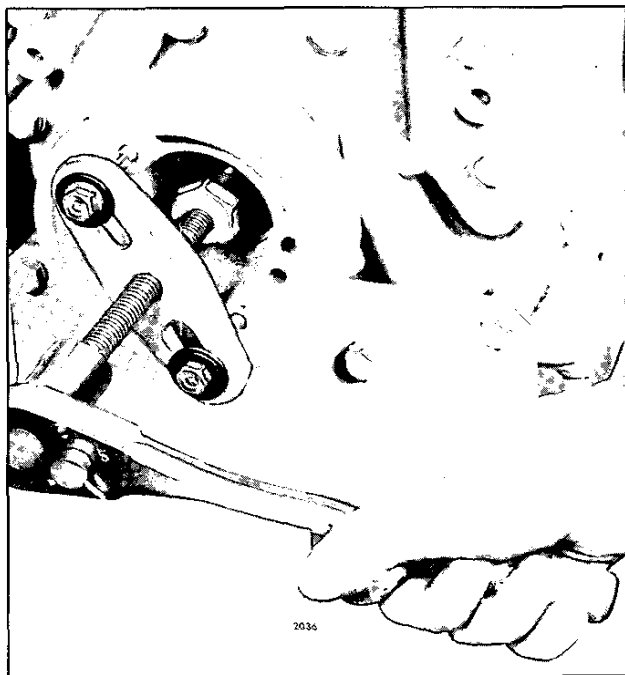

Fig. 1 - Removing Crankshaft Pulley Using Puller J 24420-A
3. If a rigid type pulley is being removed from an In-line or 6V engine, install the pulley retaining bolt and puller J 24420-A (Fig. 1). Then, force the pulley off the crankshaft by turning the puller center screw in.